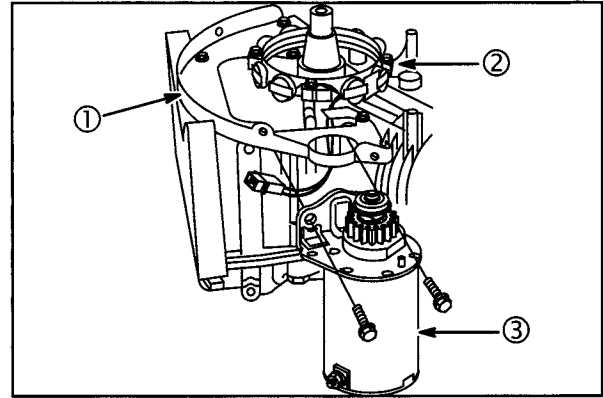

Fig. 15
1. Install back plate (1), Fig. 15. Torque screws to **65 in. lbs. (7 Nm)**.
2. Install alternator (2). Torque screws to **20 in. lbs. (2 Nm)**.
3. Install starter motor (3). Torque screws to **140 in. lbs. (16 Nm)**.